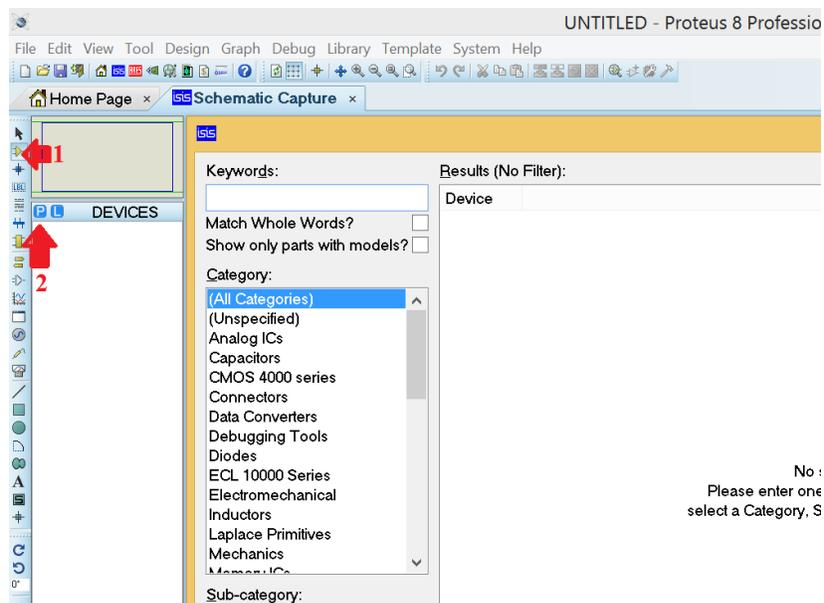

Figure-10
2) Circuit elements can be added from the ISIS libraries. At first click "Component Mode" icon, **Figure-10** step 1, then click "P" icon, **Figure-10** step 2, to open library window.